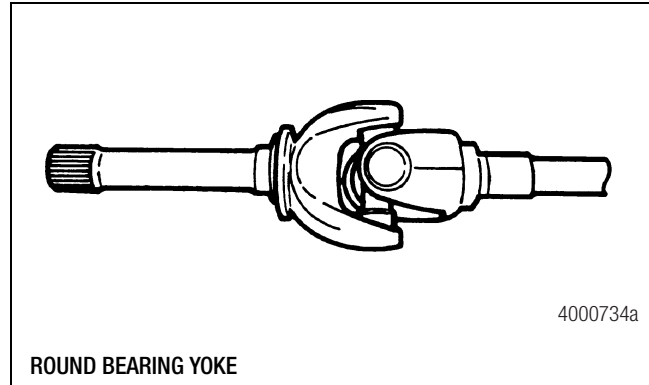

Figure 6.6
1. Install a new seal onto the outer drive shaft. Figure 6.6.